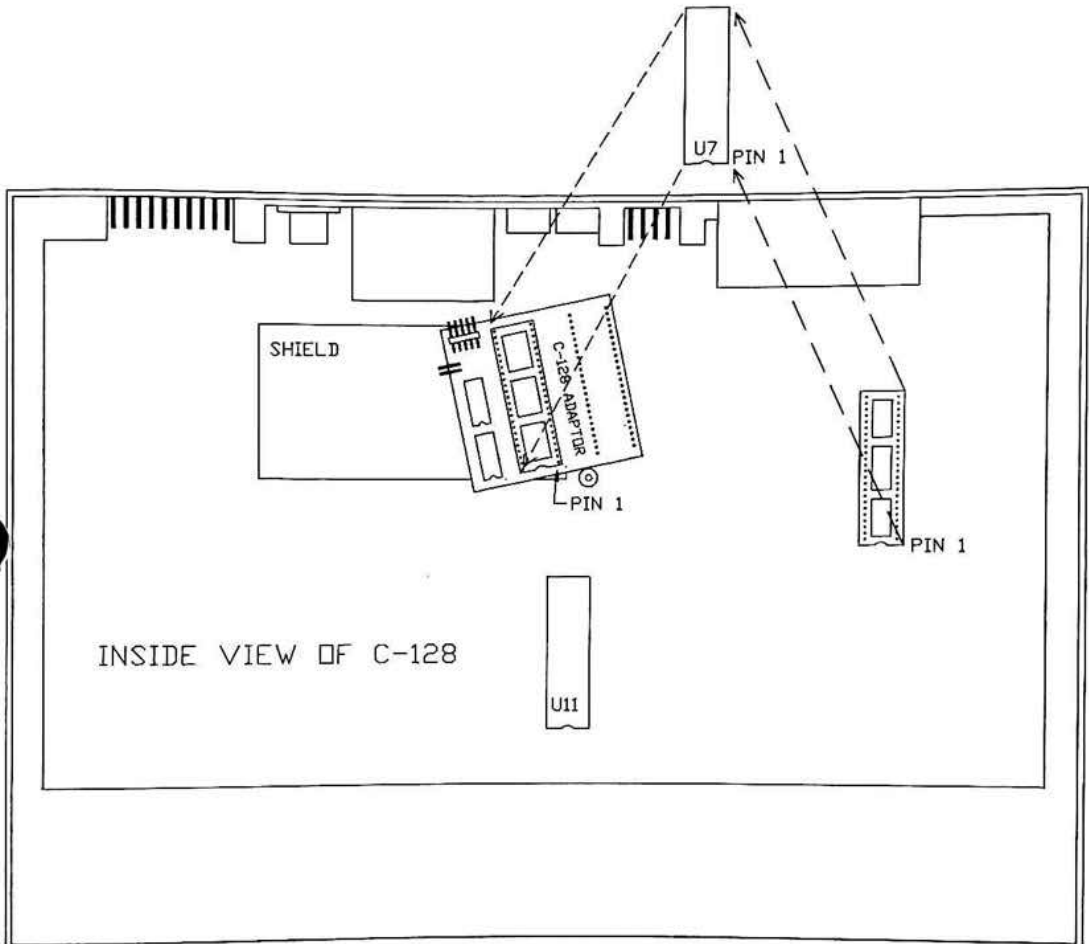

FIG. 7
Step 3 - Locate the C-128 ADAPTOR and lay on top of the SHIELD as shown in FIG 7. CAUTION: Discharge yourself from potential static electricity by touching the metal SHIELD before proceeding to the next step.
Step 5 - Carefully insert chip U7 into the socket provided on the C-128 ADAPTOR. CAUTION: Be sure PIN 1 of chip matches PIN 1 of socket or indented end of chip matches indented end of socket. Refer to FIG 7.